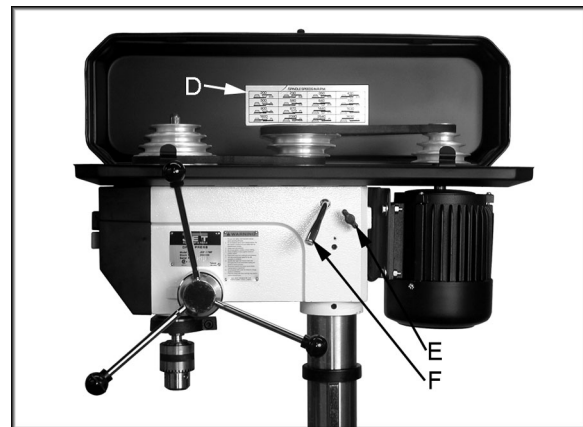

Figure 8
A spindle speed and belt arrangement chart are found on the inside of the belt cover (D, Figure 8). Refer to this chart whenever changing speeds. (A similar chart is shown in Figure 11.)
2. Loosen two bar knobs (E, Figure 8) found on each side of the head assembly.
3. Rotate the tension adjuster (F, Figure 8) to bring the motor base as close to the head as possible.
5. Rotate the tension adjuster (F, Figure 8) to tension the belts.
6. Tighten two bar knobs (E, Figure 8). Belts are properly tensioned when finger and thumb pressure midway between the two pulleys causes approximately 1/2" deflection.